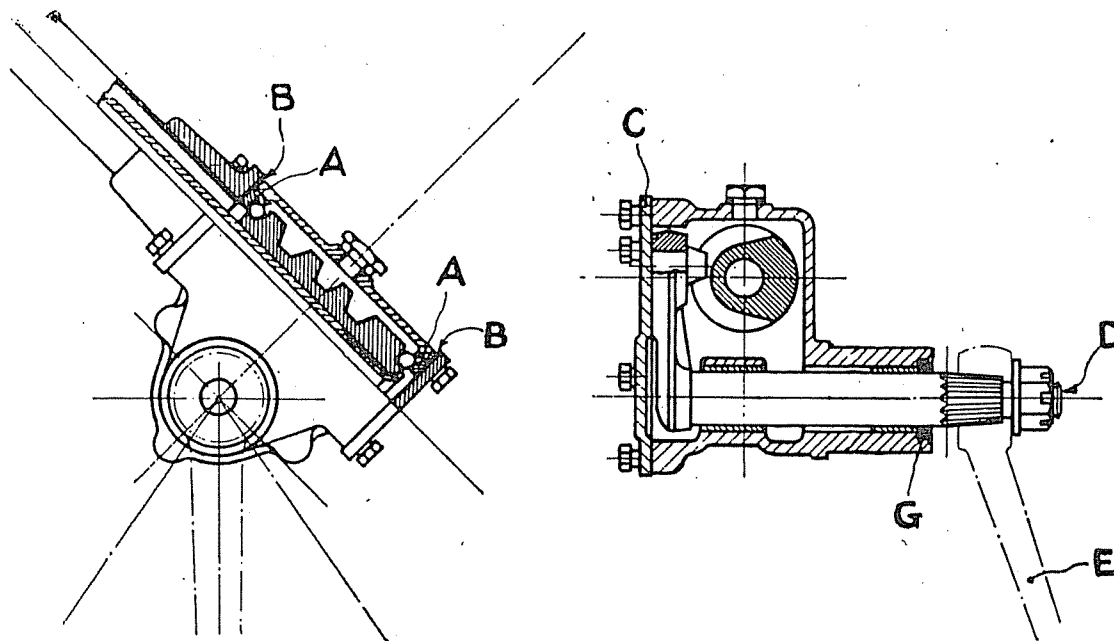

Fig. 5.—Section of Steering Gear.
- (1) Loosen the side cover screws to free the stud in the cam groove.
- (2) Remove the steering outer tube to the steering box to permit the removal of shim "B" (Figure 5).
- (3) Clip and remove one or more of the thin shims as required.
- (4) Re-assemble tube and housing and tighten into place.
- (5) Test adjustment and if necessary remove or add shims "B" (Figure 5) to the top or lower bearings to centralise stud in the cam groove until adjustment is correct. The bearings should be tightened until a barely perceptible drag is felt when the steering wheel is turned.
- (1) Remove screws which hold steering box side cover plate. Remove cover and shims "C" (Figure 5).
- (2) The shims are in varying thickness so that a fine adjustment can be made.
- (3) Add or remove shims of the required thickness to eliminate backlash.